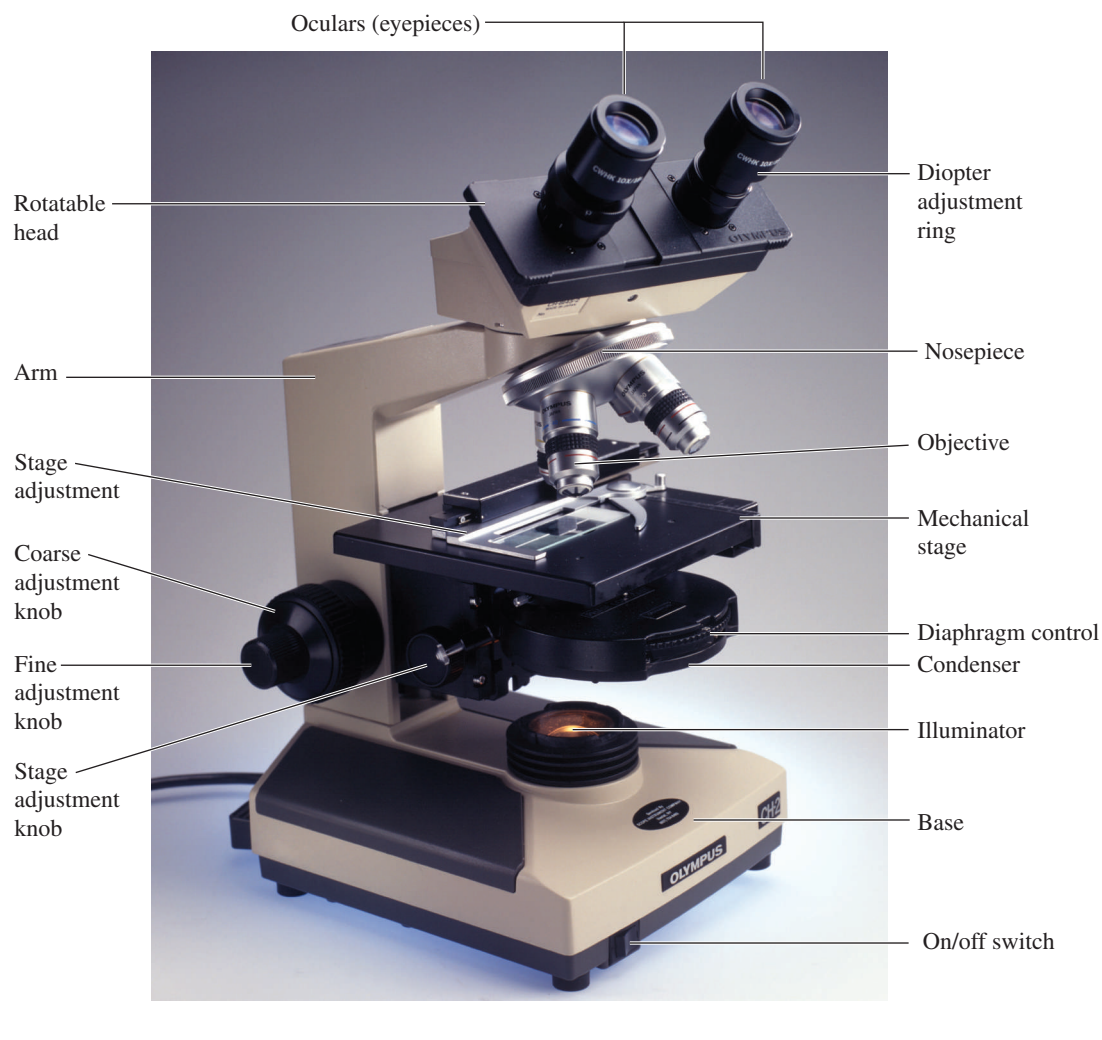
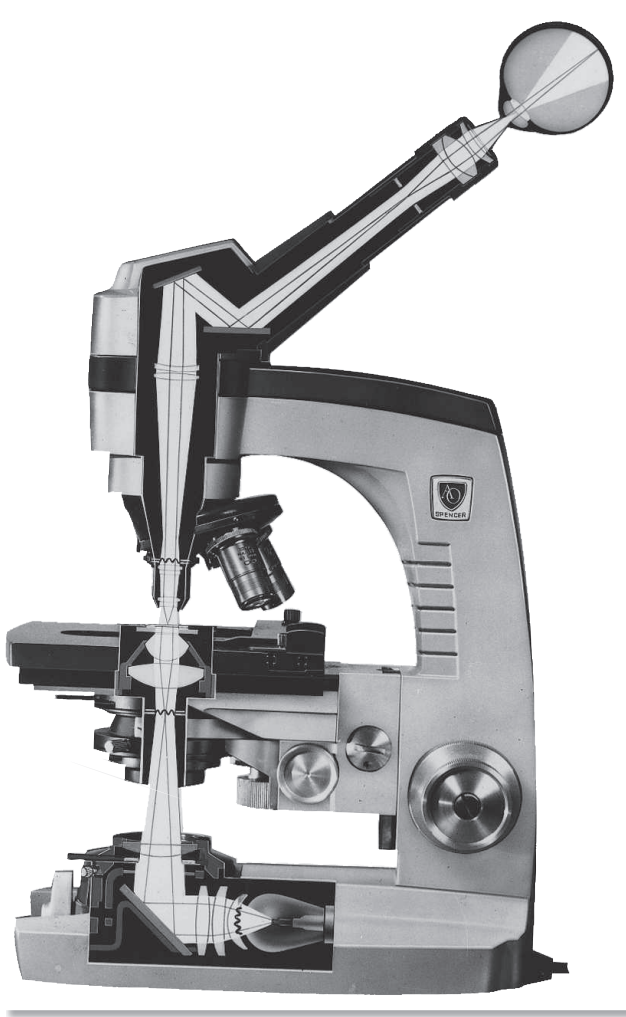

Figure 1.2 The compound microscope.
Figure 1.3 The light pathway of a microscope.
Before we discuss the procedures for using a microscope, let's identify the principal parts of the instrument as illustrated in figure 1.2.
**Framework** All microscopes have a basic frame structure, which includes the **arm** and **base**. To this framework all other parts are attached. On many of the older microscopes the base is not rigidly attached to the arm as is the case in figure 1.2; instead, a pivot point is present that enables one to tilt the arm backward to adjust the eye point height.
**Stage** The horizontal platform that supports the microscope slide is called the **stage**. Note that it has a clamping device, the **stage adjustment**, which is used for holding and moving the slide around on the stage. Note, also, the location of the **stage adjustment knobs** in figure 1.2.
**Light Source** In the base of most microscopes is positioned some kind of light source. Ideally, the lamp should have a **light intensity control** to vary the intensity of light. The microscope in figure 1.2 has a knurled wheel on the right side of its base to regulate the voltage supplied to the lightbulb.
**Lens Systems** All compound microscopes have three lens systems: the oculars, the objectives, and the condenser. Figure 1.3 illustrates the light path through these three systems.
The **ocular**, or eyepiece, is a complex piece, located at the top of the instrument, that consists of two or more internal lenses and usually has a magnification of  $10\times$ . Most modern microscopes (figure 1.2) have two ocular (binocular) lenses.
The object is now magnified 1000 times its actual size. The third lens system is the **condenser**, which is located under the stage. It collects and directs the light from the lamp to the slide being studied. Unlike the ocular and objective lenses, the condenser lens does not affect the magnifying power of the compound microscope. The condenser can be moved up and down by a knob under the stage. A **diaphragm** within the condenser regulates the amount of light that reaches the slide. Microscopes that lack a voltage control on the light source rely entirely on the diaphragm for controlling light intensity. On the Olympus CX41 microscope in figure 1.2, the diaphragm is controlled by turning a knurled ring. On some microscopes, a diaphragm lever is present. Figure 1.3 illustrates the location of the condenser and diaphragm.
To make diopter adjustments, one focuses first with the right eye only. Without touching the focusing knobs, diopter adjustments are then made on the left eye by turning the knurled **diopter adjustment ring** (figure 1.2) on the left ocular until a sharp image is seen. One should now be able to see sharp images with both eyes.